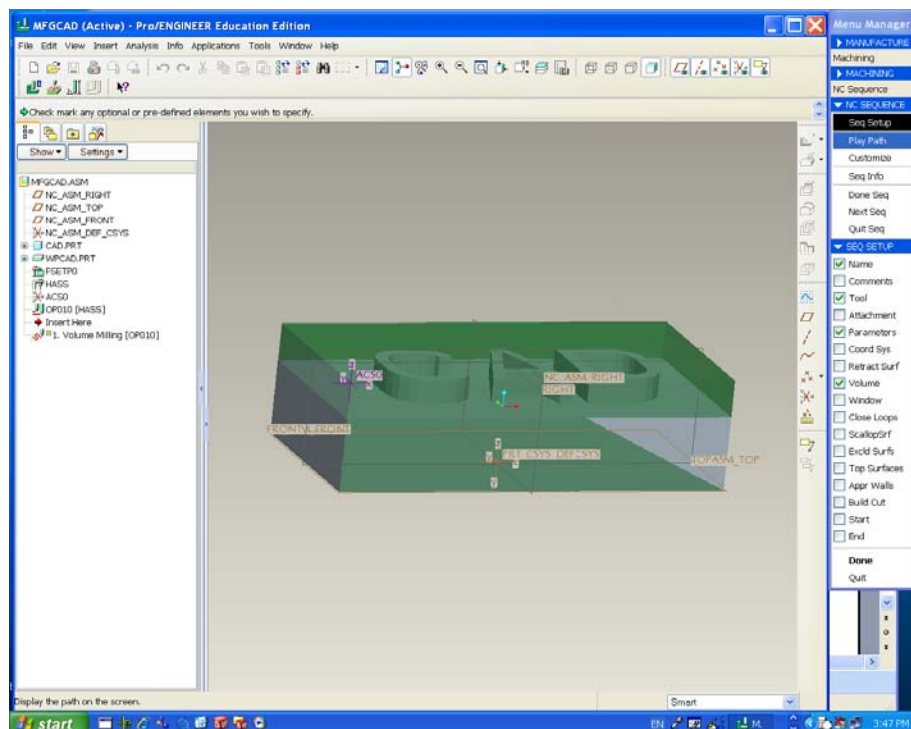

Figure 1.31
2. SEQ SETUP window pops up. Ensure that **name**, **tool**, **parameters** and **volume** are checked and then choose DONE. (Figure 1.31).